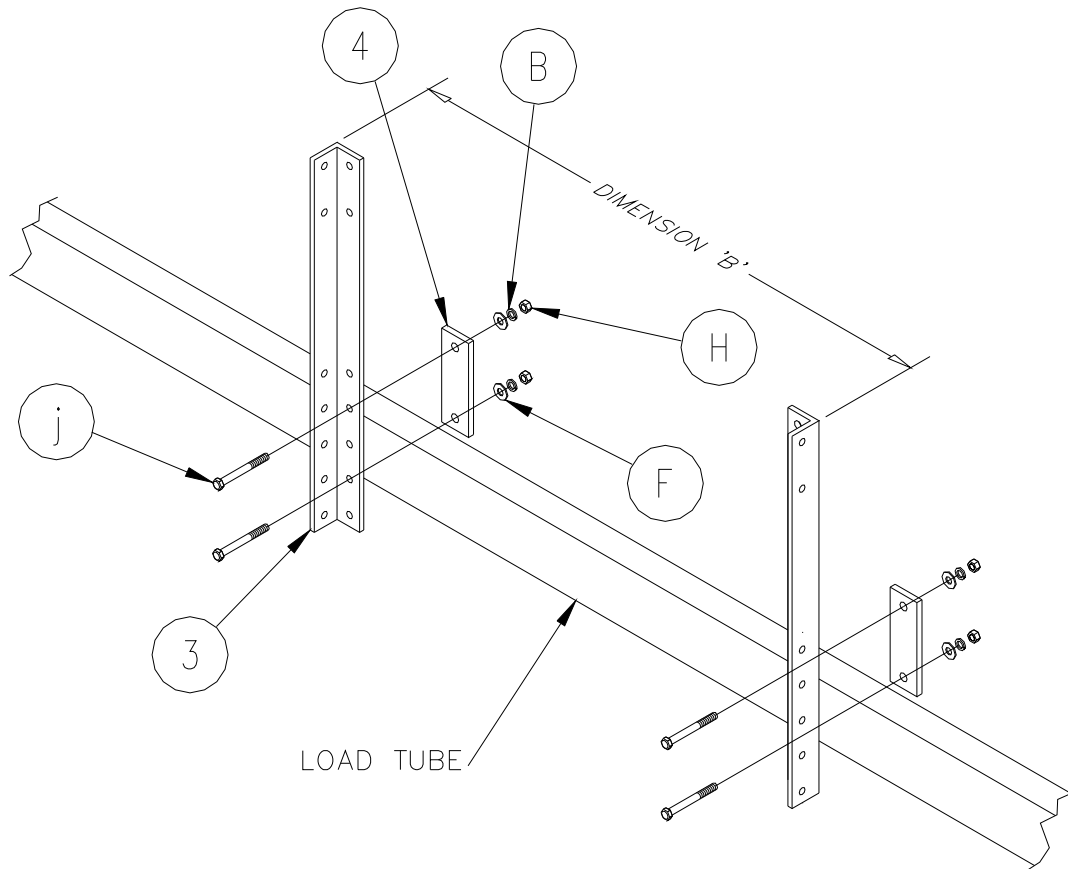

Figure 2-6.
5. **Refer to Figure 2-6.** Fasten the each guide-on mounting angle to the load tubes using two 3/8-16 HHCS bolts (A), two flat washers (F) , two split-lock washers (B), and two silicon bronze hex nuts (H) supplied. Silicon bronze nuts have been provided to prevent hardware “gall, lock up, or seize” during assembly.